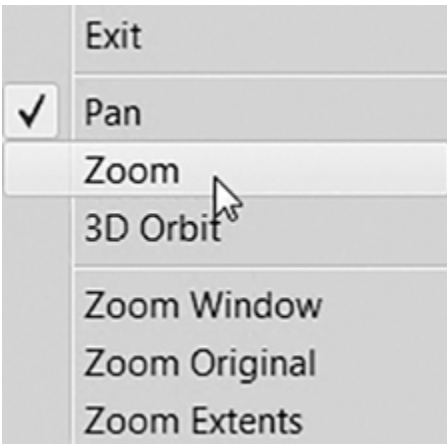

Figure 3-11
You can quickly switch between the **Pan** tool and the **Zoom Realtime** tool by right-clicking to display the shortcut menu shown in Figure 3-11.
- 7 Release the left mouse button and then click the right mouse button to display the **Pan/Zoom** shortcut menu (see Figure 3-11).